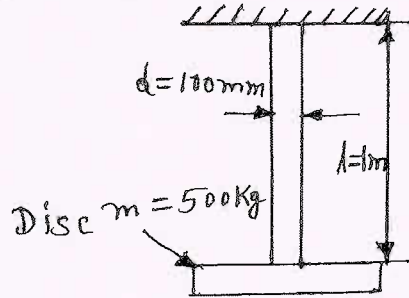

Fig.Q.8(b)
- b. A vertical shaft of 100mm in diameter and 1m long has its upper end fixed at the top as shown in Fig.Q.8(b). At the other end it carries a disc of 500kg at a radius of gyration of 450mm. The modulus of rigidity and modulus of elasticity (Young's modulus) for the shaft material are  $80\text{GN/m}^2$  and  $200\text{GN/m}^2$  neglecting the weight of the shaft. Determine: